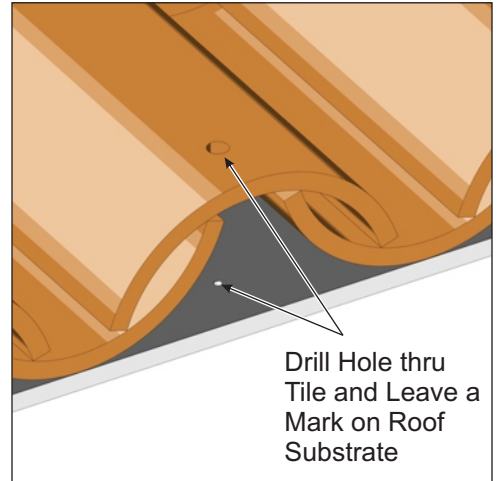

Figure 2: Drill Hole & Mark Location
- A. Drill a 9/16" hole thru the tile where the Roof Rod will be installed. Allow the drill bit to lightly touch the roof substrate to leave a mark. (See Figure 2)